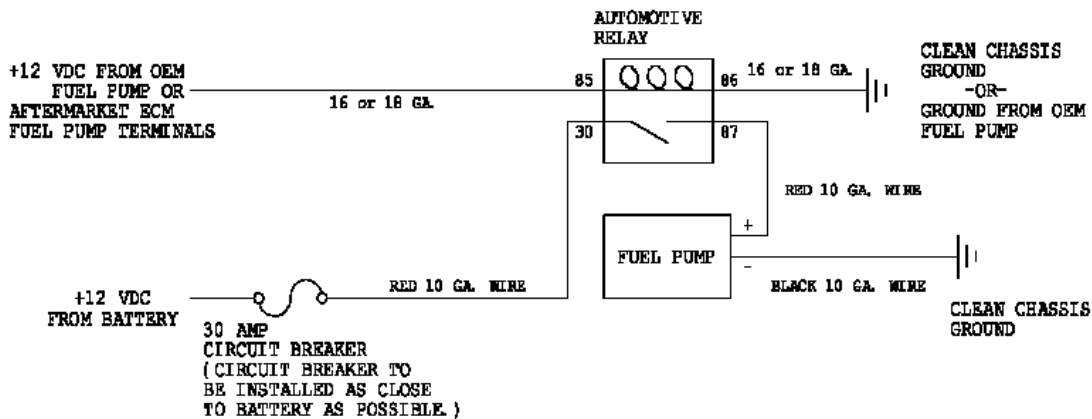

FIGURE 1-12
17. The Aeromotive fuel pump(s) needs its own relay and 12V power wire. The use of Aeromotive fuel pump wiring kit (part # 16301) is recommended. Since the factory Ford fuel pump is pulse modulated you cannot use the factory fuel pump wires to trigger the relay. Find a suitable 12V key on ignition source for the #85 connection on the relay as shown in Figure 1-12. **NOTE: ONE RELAY AND FUSE PER PUMP "SIDE" (MAIN OR AUXILIARY TERMINALS).**